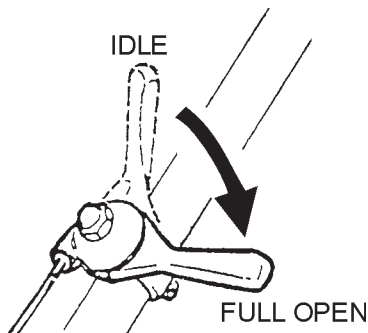

Figure 9. Throttle Lever (Full Open)
- To start the rammer tamping action, move the throttle lever (Figure 9) quickly from **IDLE** (close) to the **FULL OPEN** position. **DO NOT** move the throttle lever slowly as this may cause damage to the clutch or spring.